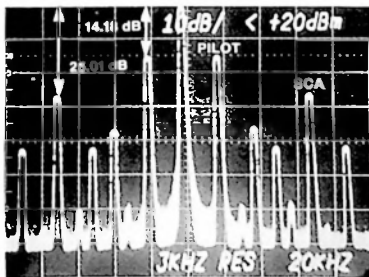

Fig. 47. Pilot and SCA Measurement Using the Bessel Null Method
25.01 dB at 10% modulation and the stereo pilot will be down 14.18 dB. This is demonstrated in figure 47.